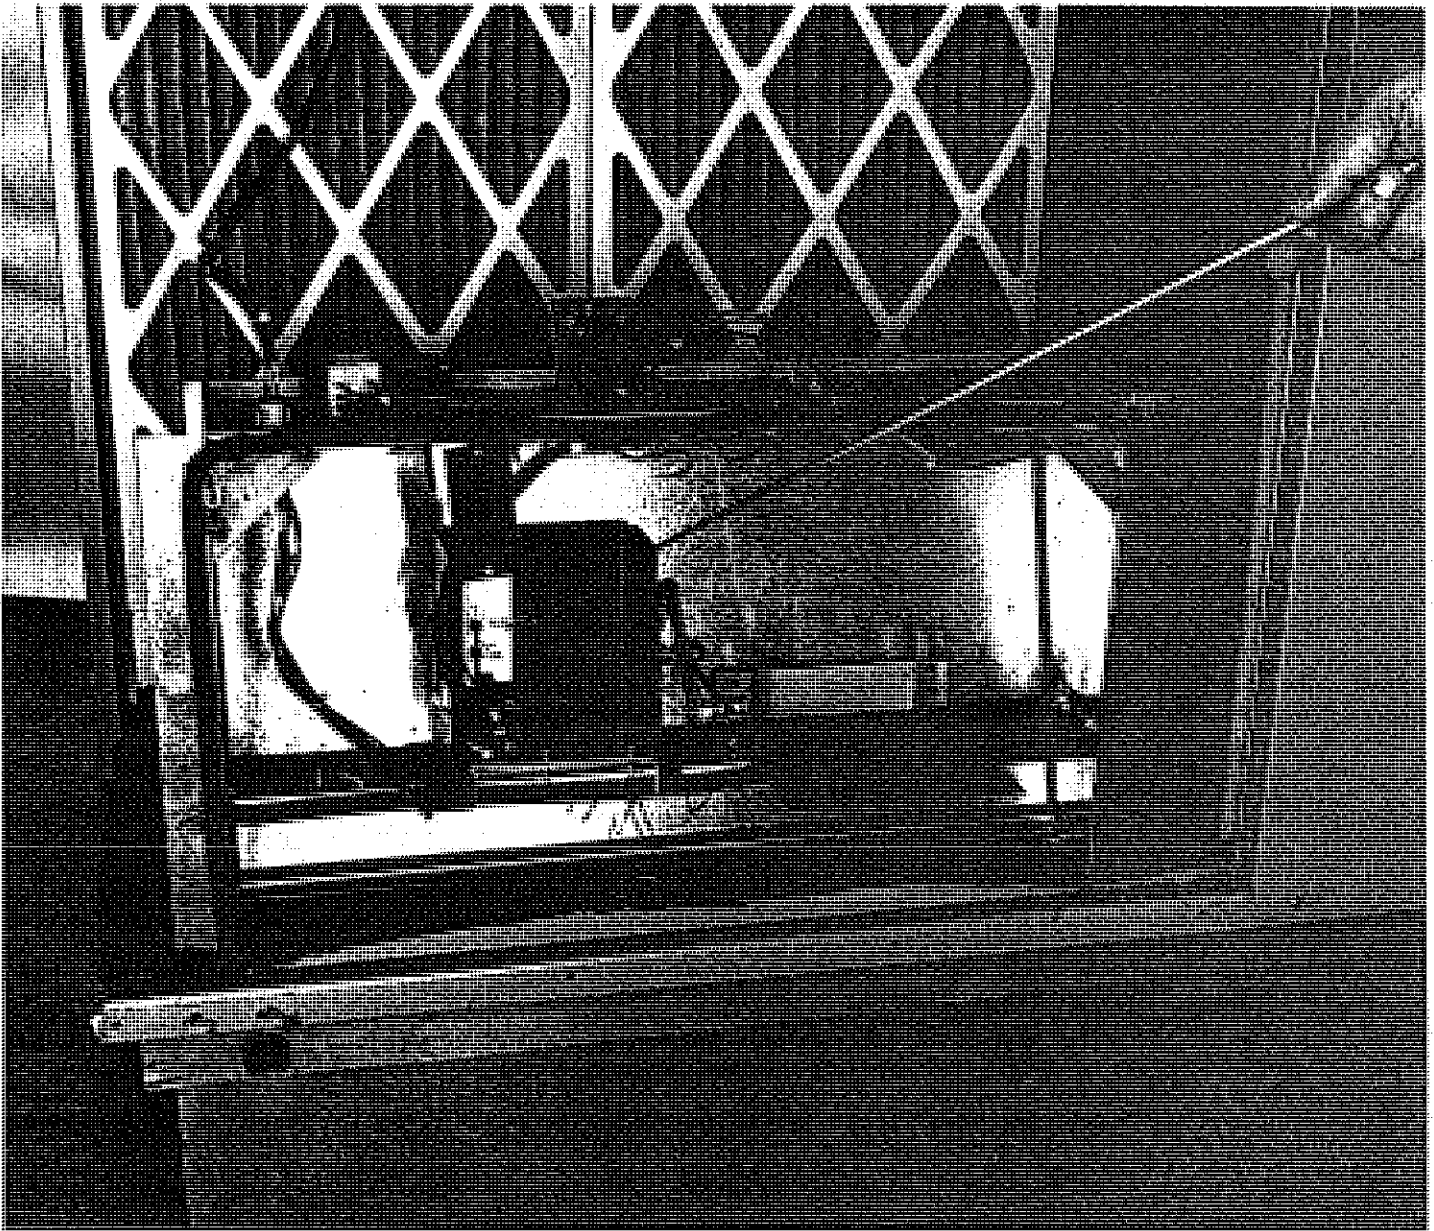

Figure 7.
- b. Remove the access plate on the motor (see enclosed manufacturer's literature) located above wiring terminals. (Figure 7)